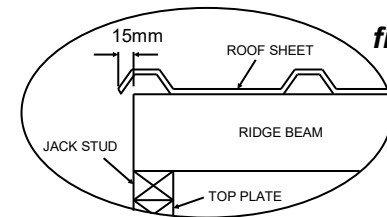

fig. 3
- Position the first Roof Sheet so that the top of the sheet is at the centre of the Ridge Beam and the side of the sheet over hangs the end of the Ridge Beam (fig .3). Using 1 x 50mm Clout, predrill and nail through the rib into the top corner. Repeat above and nail the lower corner ensuring 15mm overhang.